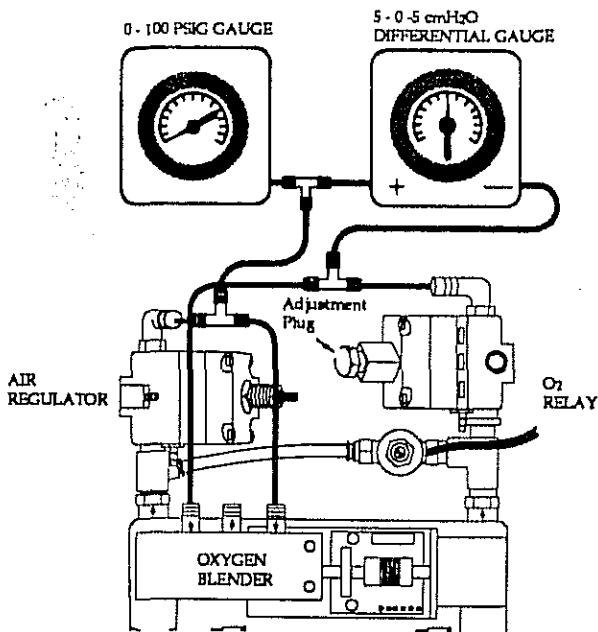

Figure 5-12
2. Connect the ventilator as shown in figure 5-12 and apply 50 psi air and O2.